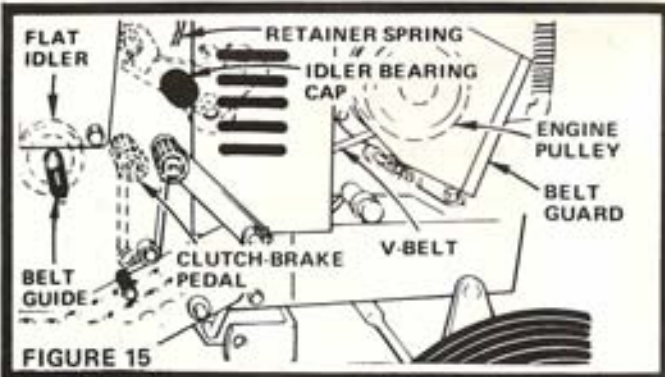

FIGURE 15
A new V-Belt may stretch after the first few hours of operation. If Clutch-Brake Pedal, in drive position (Fig. 15), is considerably to the front or rear of the vertical position, the V-Belt is out of adjustment and must be re-tensioned.
- Idle Bearing (Fig. 15).